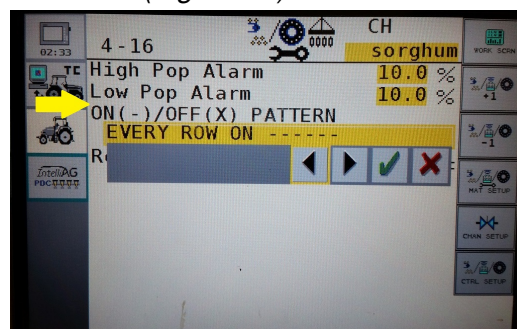

Figure 22
Step 17. Select **On/Off Pattern** and enter. In most cases, you will set to every row on. If you were using the opener lock-up kit, you would select **every 2nd row on**. This will automatically change how VT figures rate and acres. (Figure 22)